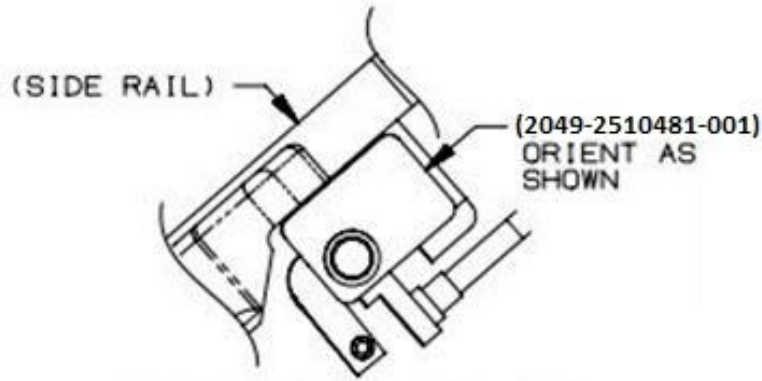

Figure 3.3 Blocking Tab Orientation
- E. Orient the blocking tab per Figure 3.3